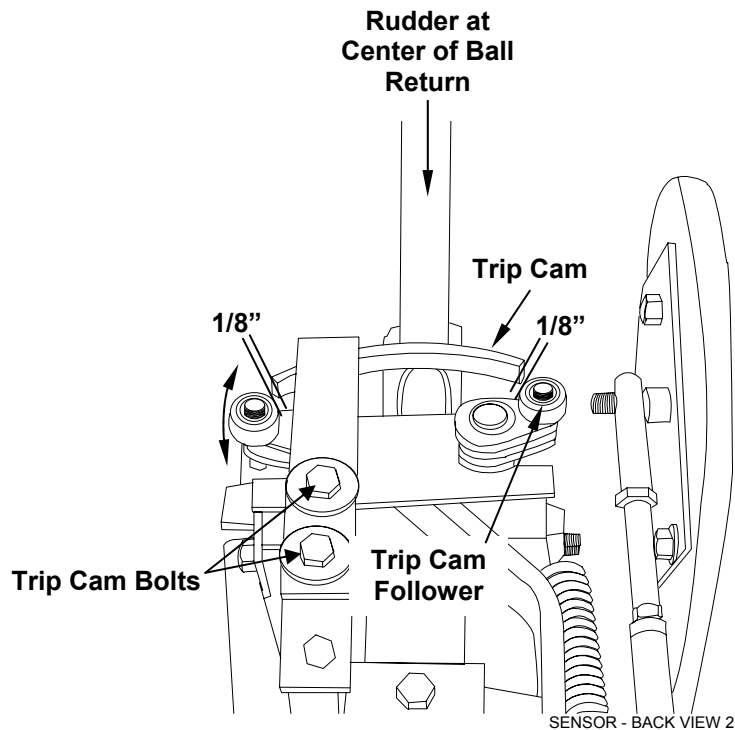

Figure 2-8
2. Push the trip cam followers forward as far as they will go. There should be a 1/8-inch gap on each side between the trip cam and rollers (see Figure 2-8).